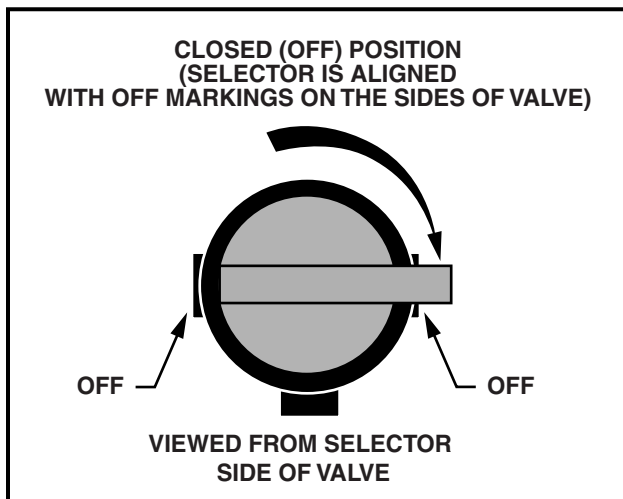

Figure 12 Fuel Shut-off Valve – Closed Position
2. Turn key switch to OFF and place the Forward/Reverse handle in the NEUTRAL position. Remove the key and turn fuel shut-off valve to closed (OFF) position when the vehicle is not in use (**Figure 12, Page 21**).
- Turn fuel shut-off valve to closed (OFF) position (Figure 12, Page 21).
- Turn fuel shut-off valve to the closed (OFF) position (Figure 12, Page 21).
- Turn the fuel shut-off valve to the closed (**OFF**) position (**Figure 12, Page 21**).
- 2.1. Place the Forward/Reverse handle in the **NEUTRAL** position and the neutral lockout cam in the **SERVICE** position. Turn the fuel shut-off valve to the closed (**OFF**) position (**Figure 12**) and run the engine until fuel remaining in the carburetor and fuel lines is depleted and the engine stalls. Return the neutral lockout cam to the **OPERATE** position.
- Turn fuel shut-off valve to the closed (OFF) position (**Figure 12**).